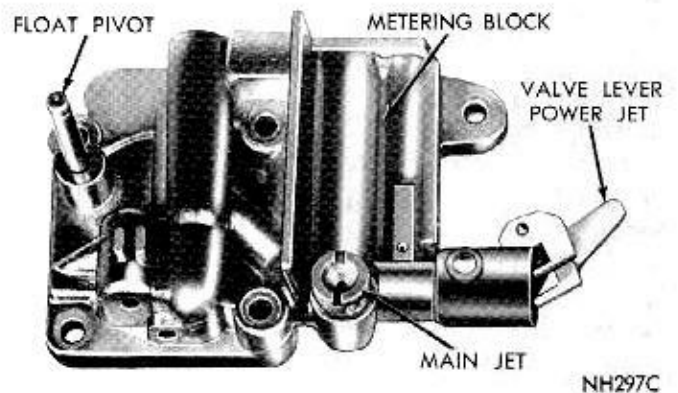

Fig. 9—Metering Block Assembly
(11) Using Tool C-3748, remove main jet from metering block. (Fig. 9).
(12) Using a suitable tool, remove pump lever retaining clip. Slide lever off pivot and disengage link from throttle lever.
(13) Remove fast idle cam retaining screw, then remove cam, and at same time, disengage fast idle cam rod.
(7) Install main jet in metering block, using Tool C-3748. (Fig. 9).